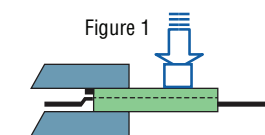

Figure 1
- a) Do not apply more than 10 N moment to the breaker body (refer to Figure 1)